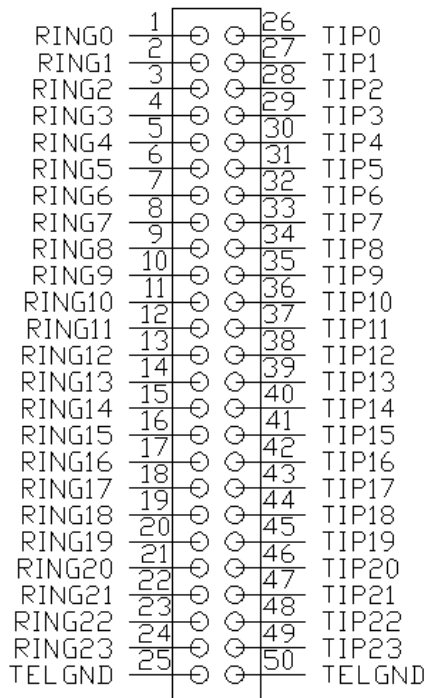

Figure 3: J1 RJ21 Pin Assignments
- J1** Analog telephone connections. This connector is a standard RJ21 type 50 pin connector. It contains the audio pairs for the board. Each port occupies one pair in order. See Figure 3.